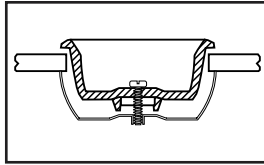
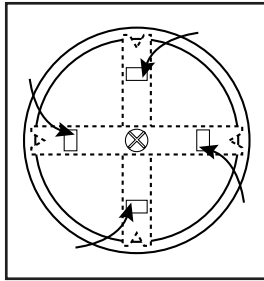

Figure 3
Figure 4
10. Press the assembly into the 2-3/16" hole until the clamp edge is below the mounting surface, then tighten the screw. The cup will clamp down to the surface as the screw is tightened (Figure 3). In the case of a thick mounting surface, the legs of the clamp can be bent outward by inserting a screwdriver through the four rectangular holes in the cup while still mounted (Figure 4)